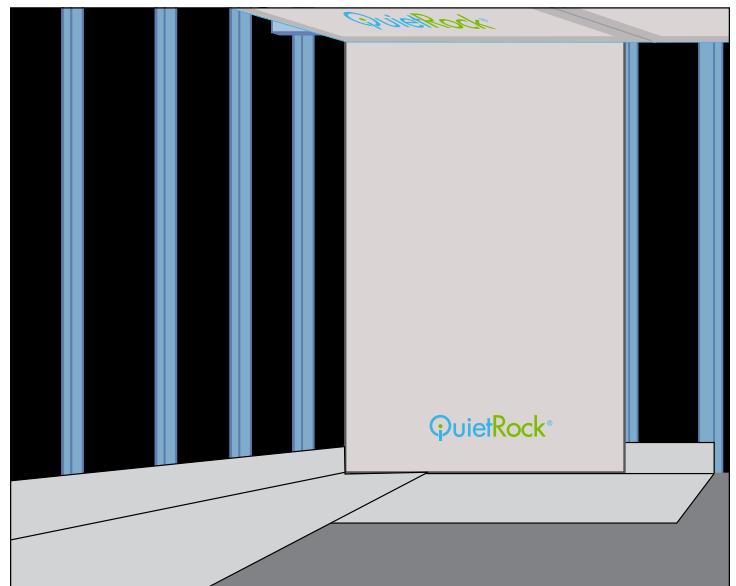

Fig. 2: Application of foil to framing
3. Apply RF foil (as specified by sponsoring agency) to studs prior to installing QuietRock® 530RF. (Fig. 2)